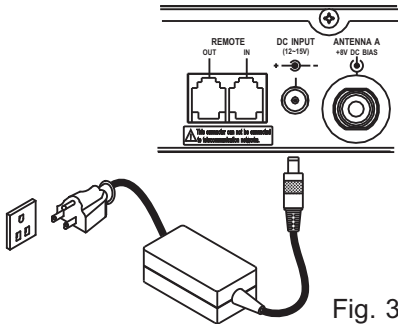

Fig. 3
- (B) Connect the power supply to the receiver DC input jack **17** and plug into an AC power source, Fig. 3.